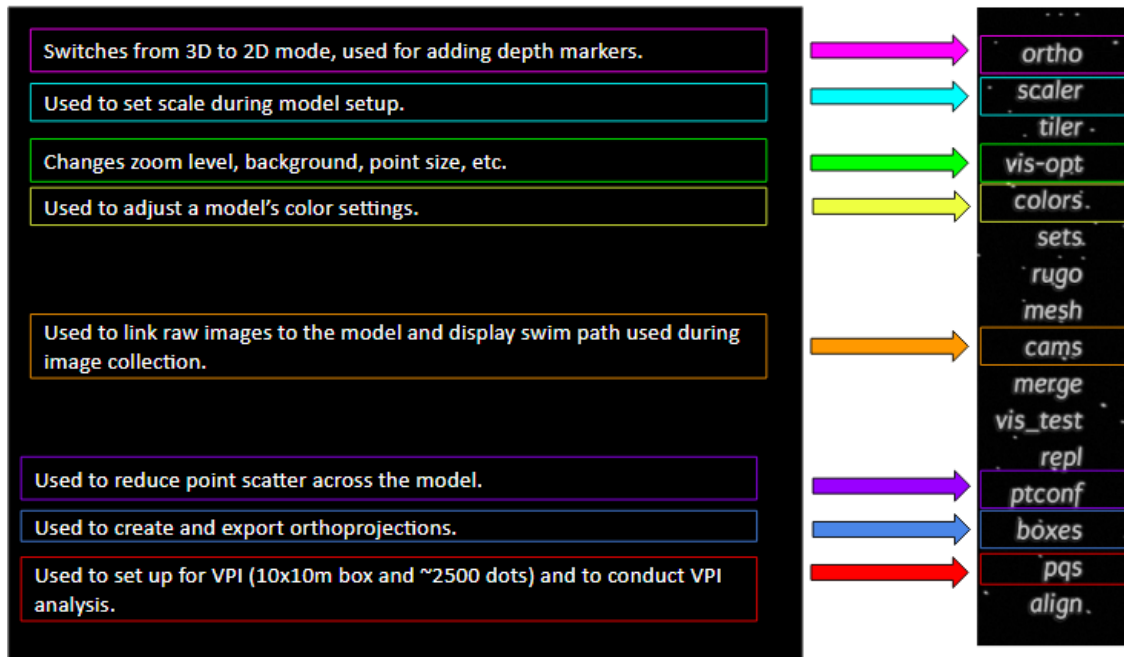

Figure 52. Example of HUD tools primarily used in this workflow.
- The primary tools available in the HUD that are utilized by this workflow are highlighted and briefly described in Figure 52.
- Rotate model 90° when in Ortho mode: Arrow keys on keypad (See Figure 52 for further explanation of Ortho mode).